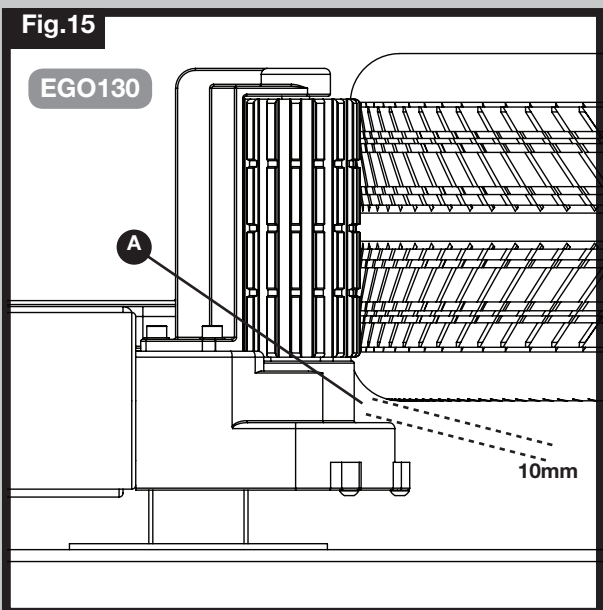

Fig.18
The chassis clamps and chassis plates provided are suitable for fitment onto most standard caravan chassis. Please refer to Fig.18 for reference on dimensions and clearances BEFORE you proceed any further with installation. The fixings provided are also suitable for most European type chassis and will not normally require the use of the chassis plates (37) and will, instead, fit straight onto the lip of an 'L' profile or 'U' profile chassis (please refer to Fig.18A for reference).